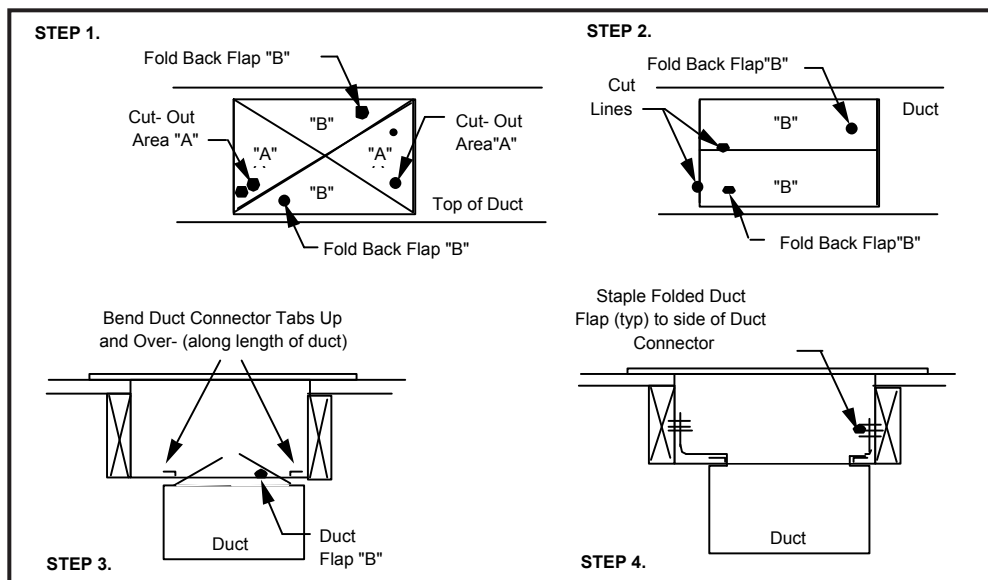

Figure 12. Alternate Installation
This procedure may also be used to install a furnace duct connector to narrow metal ductwork where insufficient clearance prevents bending of the duct connector tabs at the side(s) of the duct. See Figure 12, page 12.
2. Fold the duct flap "B" up (Step 3, Figure 12).
5. Fold/form the duct flap against the side of the duct connector and attach as shown, (See Step 4). Use three (3) staples (minimum) on each duct flap OR, if a 2X block/joist is not provided, use two (2) sheet metal screws (minimum) on each duct flap. An alternate attachment method is acceptable, as long as the plenum is securely attached.